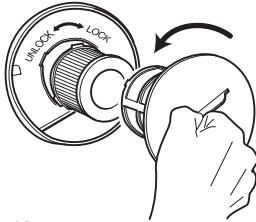

Fig. 19
4. Keep holding the cover low over a dustbin. First remove the filter screen by turning it counter-clockwise off the cover (Fig. 19).